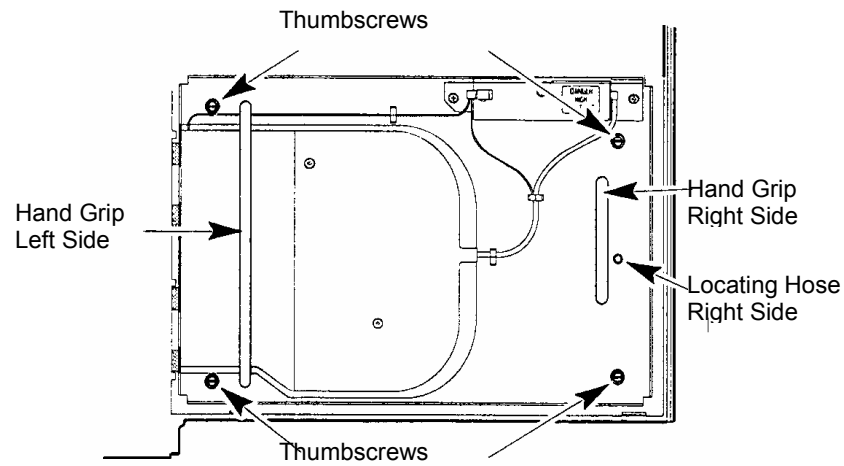

Figure 17 Four thumbscrews
3. Undo the four thumbscrews shown in Figure 17.
4. Hold the detector unit by the hand grips shown in Figure 17.